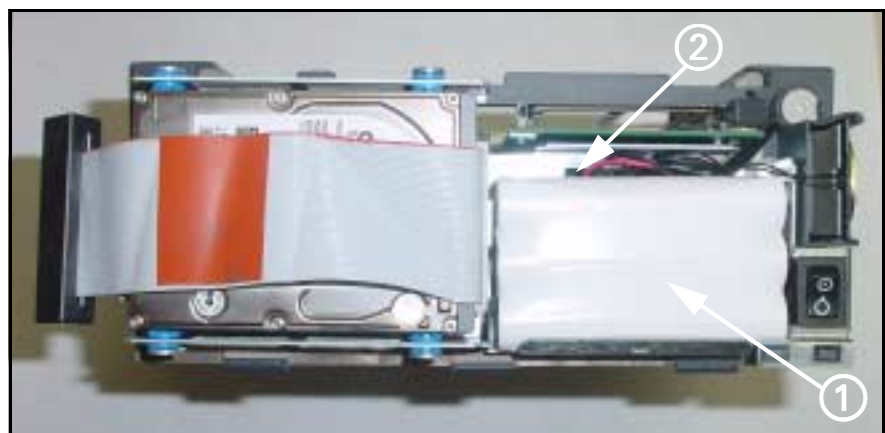

Figure 18-5 Front Panel battery
11. Lift up and then pull battery (① in Figure 18-5) out of front panel housing to gain access to battery connector (② in Figure 18-5).